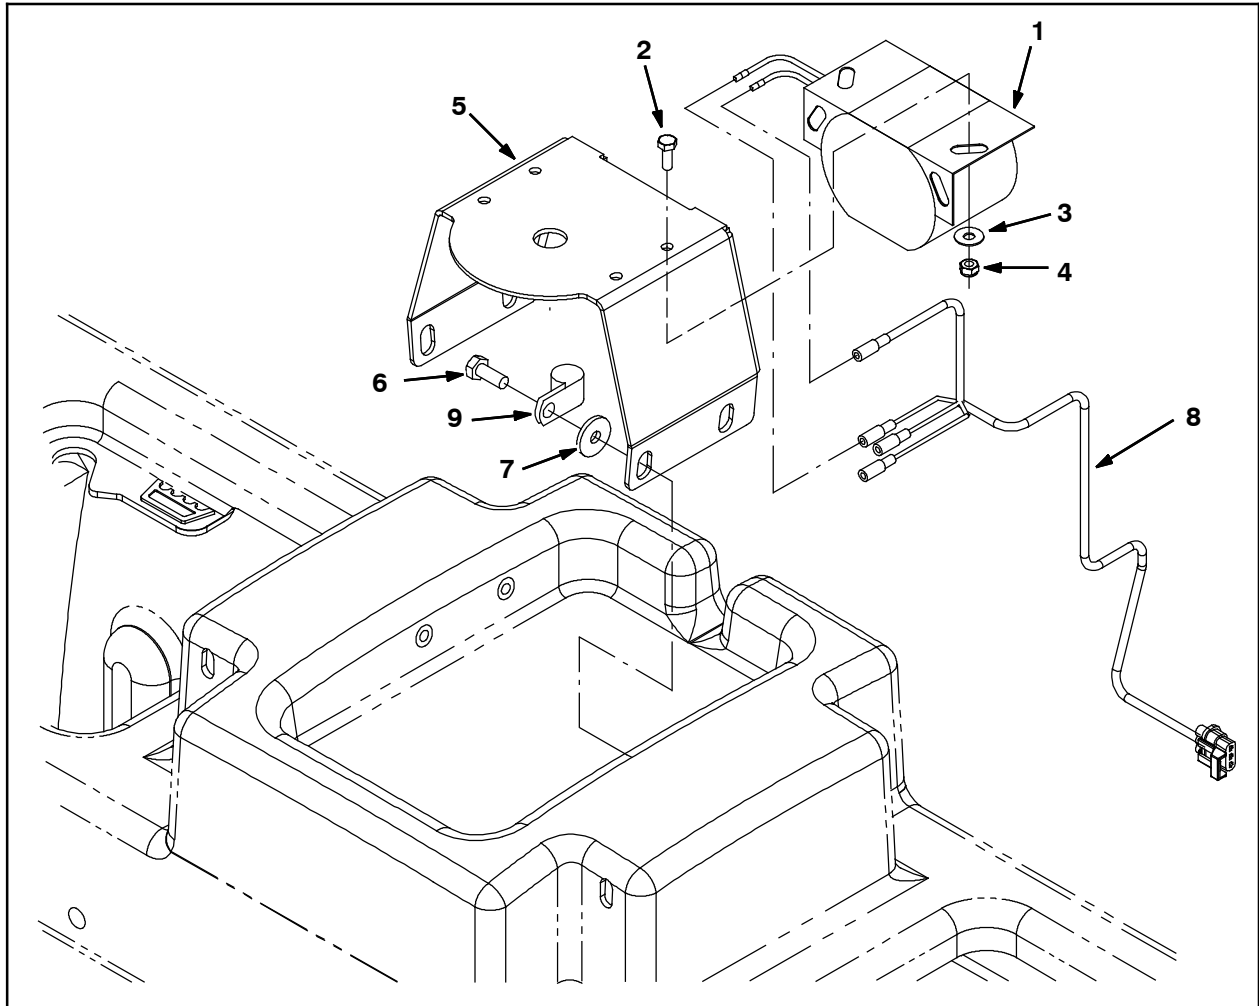
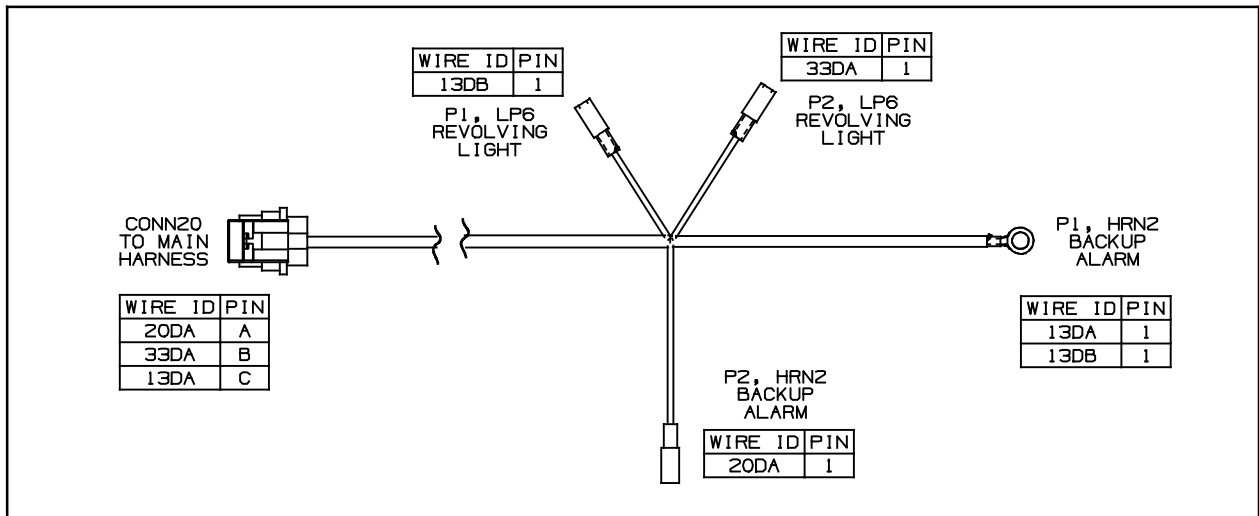
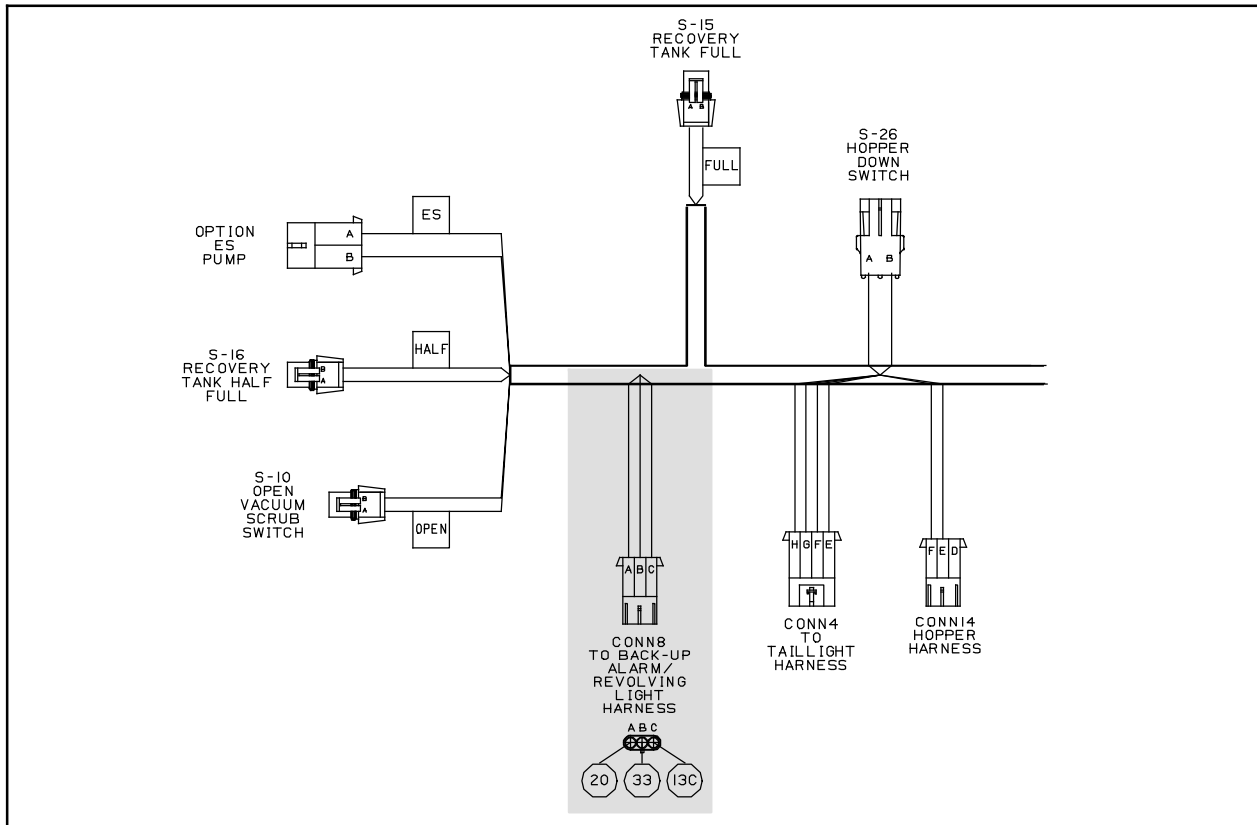

FIG. 1
FIG. 2
FIG. 3
1. Use two M5 hex screws (2), two flat washers (3), and two M5 hex nuts (4) to install the backup alarm (1) onto the bracket (5). (Fig. 1)
2. Use three M8 hex screws (6) and three flat washers (7) to install the bracket (5) onto the back of the machine. Do not install the M8 hex screw and washer used to install cable clamp (9) onto the machine. These items are installed later. (Fig. 1)
3. Route the main wire harness backup alarm/revolving light cable from between the recovery and solution tank and up to the backup alarm on the back of the machine. Connect the main wire harness to the warning/backup harness (8). (Fig. 2 / Fig. 3)
4. Connect the backup alarm (1) wires to the warning/backup harness (8). (Fig. 2)
5. Route the excess cable from the backup alarm/ revolving light cable on the main wire harness and the warning/backup harness (8) back down between the recovery tank and solution tank.
6. Neatly bundle the revolving light wires on the warning/backup harness (8) and secure them together with electrical tape or a wire tie.
7. Place the cable clamp (9) onto the warning/ backup harness (8) and use the remaining M8 hex screw (6) and flat washer (7) to secure the cable clamp and warning/backup harness to the bracket (5). (Fig. 1)